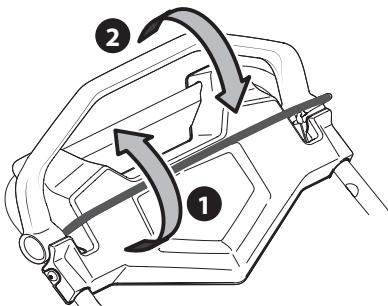

Figure 31
- Once the engine is running and while continuing to hold the blade and drive controls together, push the drive control forward to propel mower. The farther the control is pushed forward, the faster the mower will propel (Figure 31).